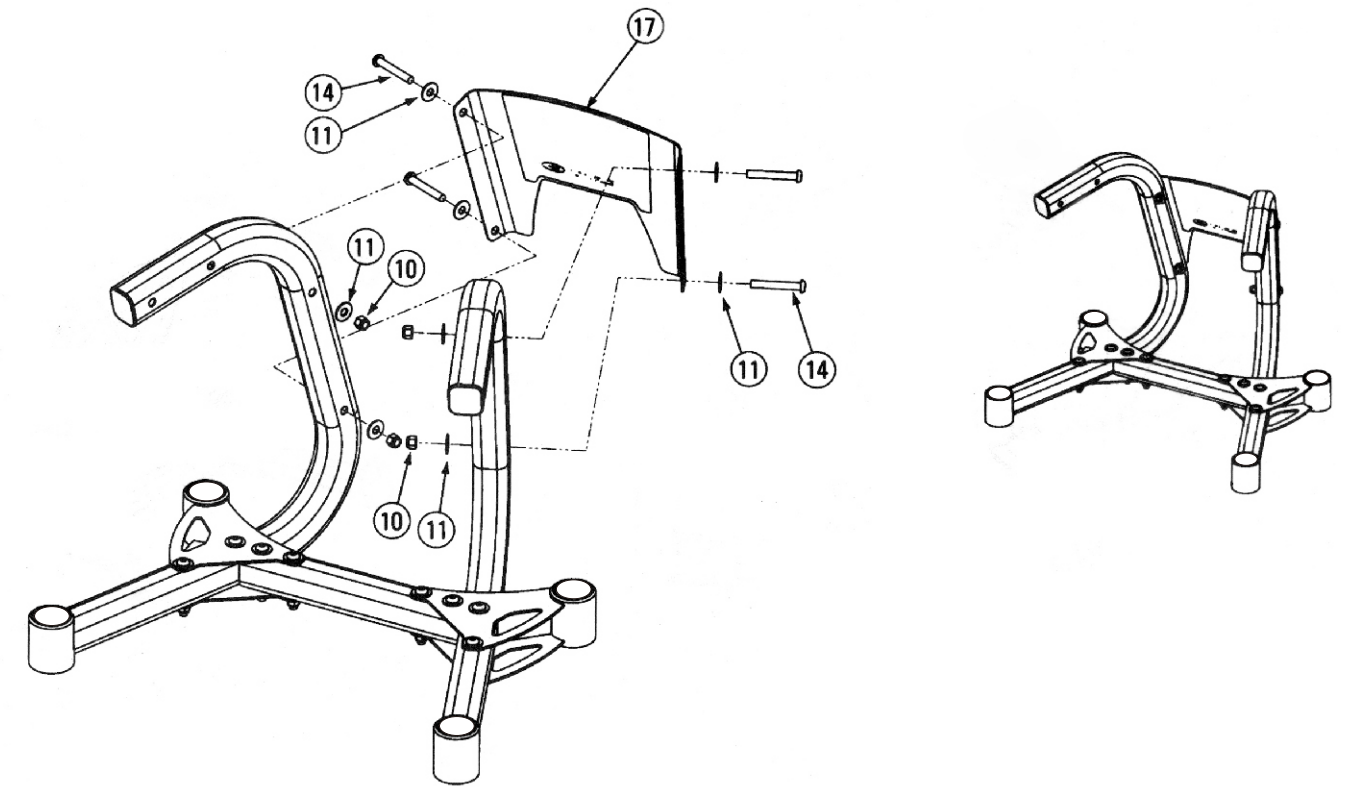

Figure 4
**4-1** Install the Center Plate (#17) to both Stand Legs (#4) using the hardware shown in **Figure 4**.